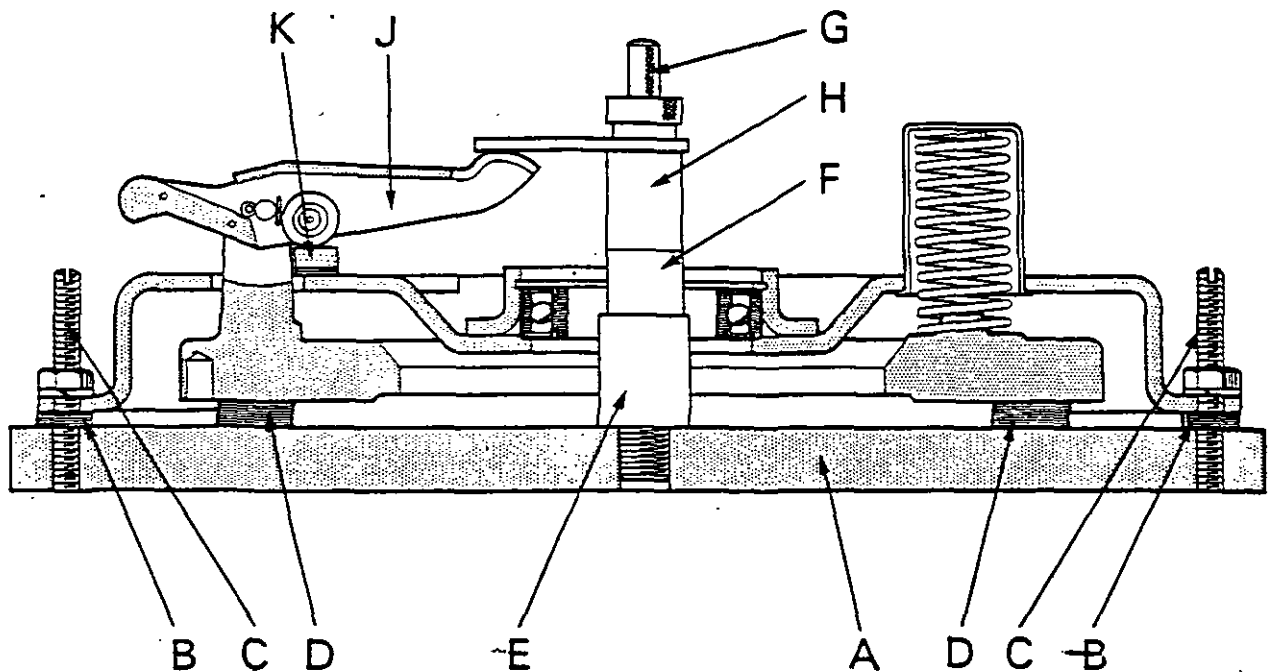

Figure 30. SETTING RELEASE LEVER HEIGHT
- Remove actuator and screw centre pillar into adaptor. Place the appropriate spacer, Code 8 if early 10/10 clutch but Code 16X if a 10/10 clutch, on the centre pillar — recess in spacer downwards — then fit checking finger. Set release levers, by shimming adjuster pads, so that lever tips are within 0.002 in. (0.05 mm) of gauge finger. Hold levers down firmly by hand when checking height setting and use a feeler gauge to measure the clearance between lever and gauge finger: a 0.001 in. variation in shim thickness gives 0.0045 in. variation at lever tip. (Fig. 30.)